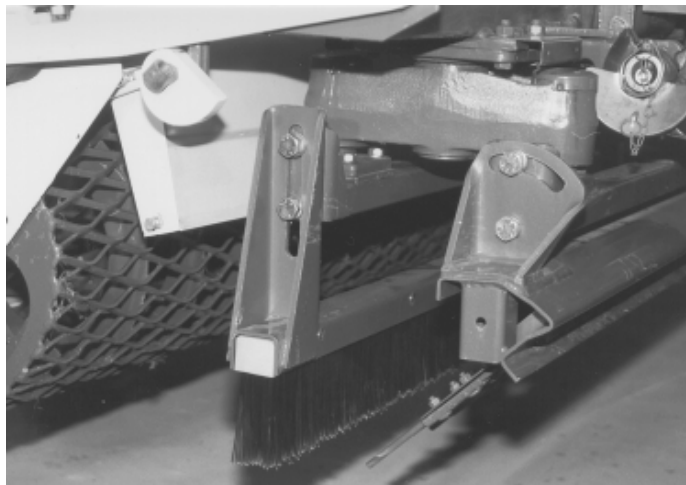

fig. 37
- Detach the two locking screws on both sides of the brush bracket (Fig. 37).